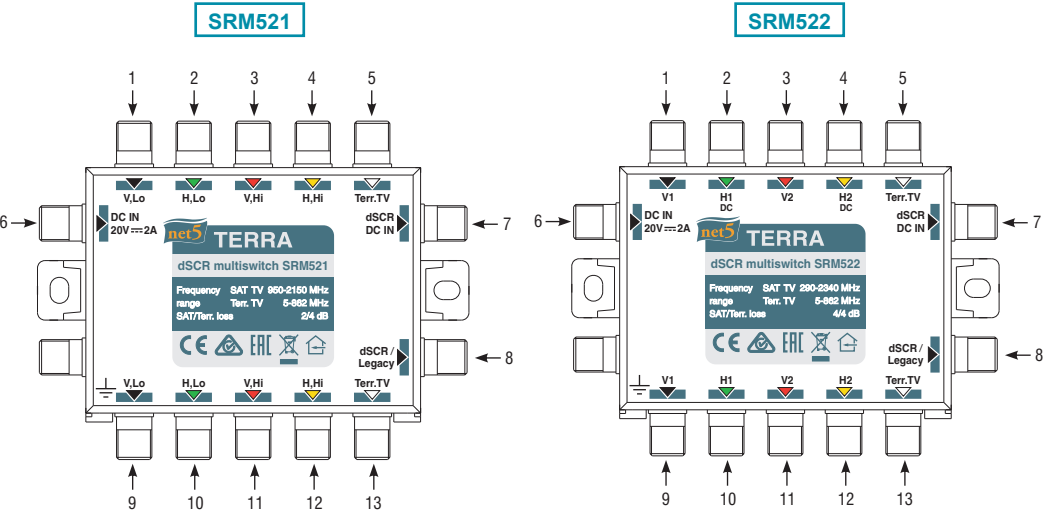

Figure 1. External view of the multiswitches
Main way for the multiswitch powering is via DC input (see Figure 1, pos. 6).
If all connected STB's can supply sufficient power to the multiswitch, connected Quattro LNB (SRM521)/2 wideband LNB's (SRM522) and other equipment powering via dSCR or Legacy outputs is also possible (see Figure 1, pos. 7, 8).
If none - use dSCR power inserter on dSCR output (see Figure 1, pos. 7).